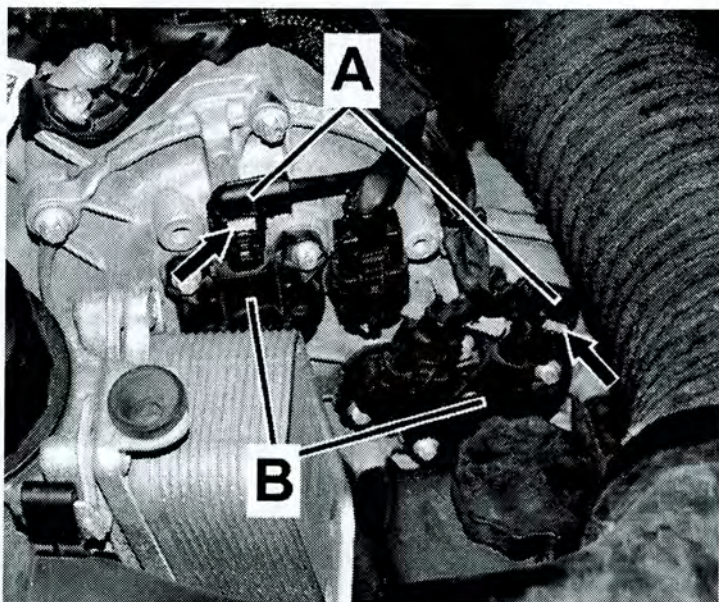
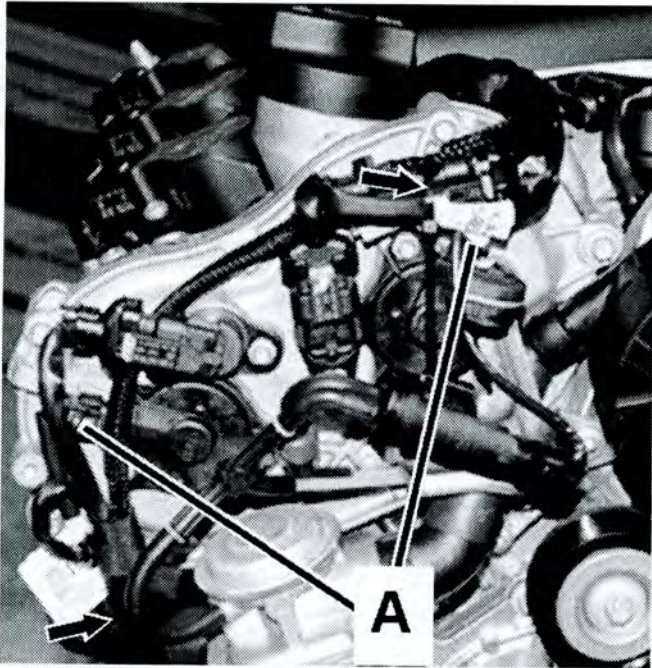

Figure 1
Figure 3
2. Disconnect camshaft adjustment solenoids from engine harness connectors (A, Figures 1 and 2):
- Carefully unlock engine harness connectors (A) by squeezing and **partially** pulling out locking tabs (arrows) using pocket screw driver.
- Disconnect camshaft adjustment solenoid connectors (A) from camshaft solenoids (B).
3. Connect adapter harnesses (A, Figures 3 and 4):
- Connect adapter harnesses (A) between connector on camshaft adjustment solenoid and engine harness.
- Push locking tabs (arrows, Figures 1 and 2) into connectors to secure (total of 8 locking tabs).
Ensure harness adapters are properly secured using cable ties (arrows, Figures 3 and 4) to prevent wire chafing and/or damage from hot engine parts, (e.g. oil cooler [B]).